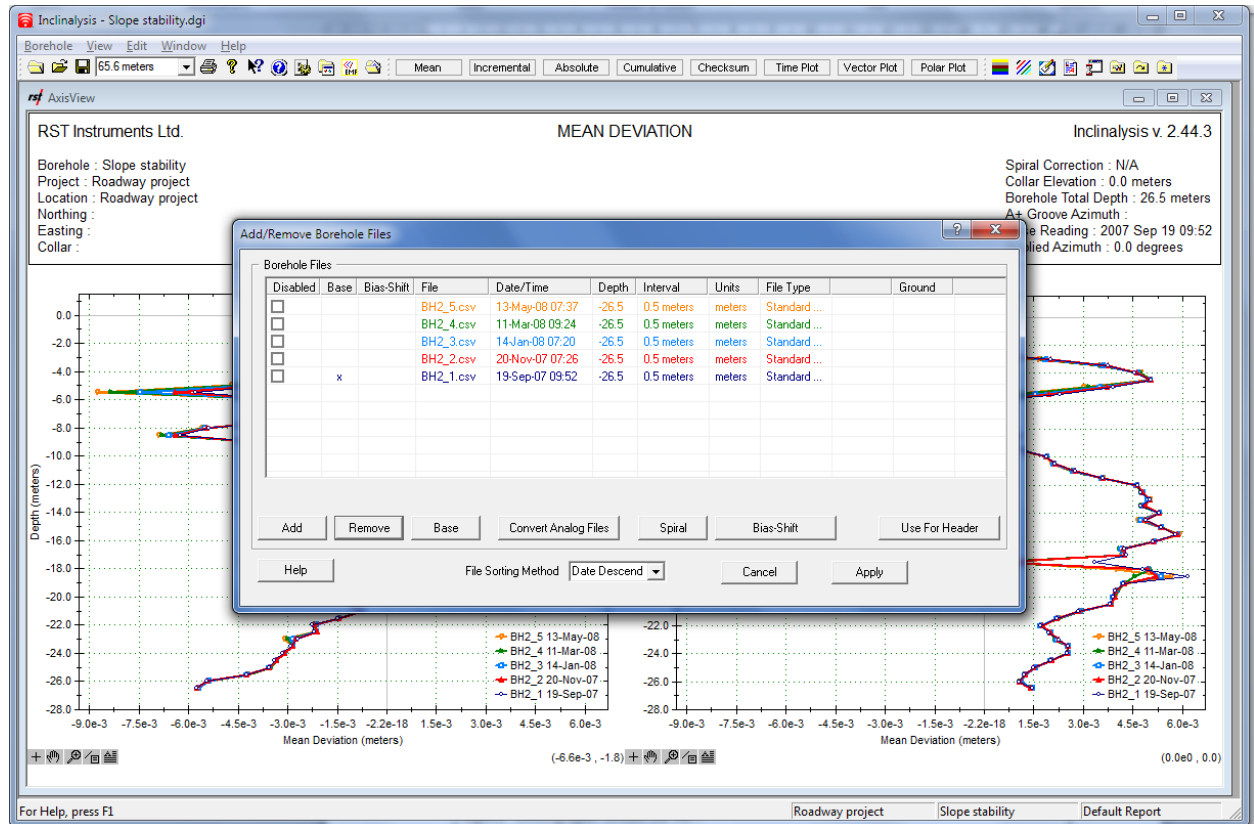

FIGURE 8-14 ADD FILES TO VIEW
- **Add Files to View...** – This option invokes a screen showing the inclinometer survey files which have been assigned to the particular plot or view (Figure 8-14). The same function is located under the **View** menu (**Add Files to View...**). For information on adding and removing files for the complete borehole/report please refer to Figure 6-9 and associated discussion.